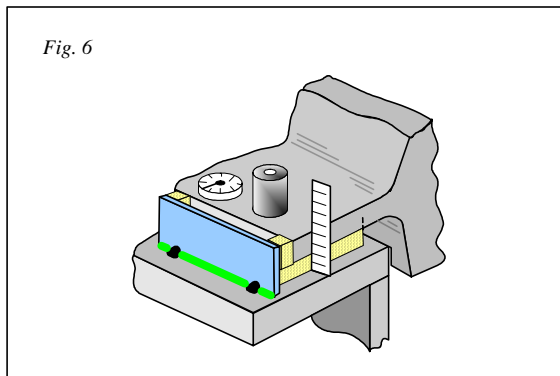

Fig. 6
- 2) Measure the chock thickness of each chock and the temperature of the engine bed and foundation. For CHOCKFAST ORANGE **only**, determine based on the graph in Fig. 9, how much hardener to use. The amount is based on machinery foundation temperature and the thickness of the chock. See Fig 6.